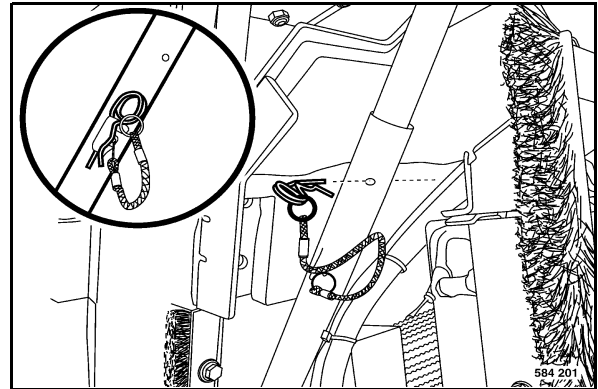

Fig. 182
- Open the engine hood (Fig. 182) completely and secure it.